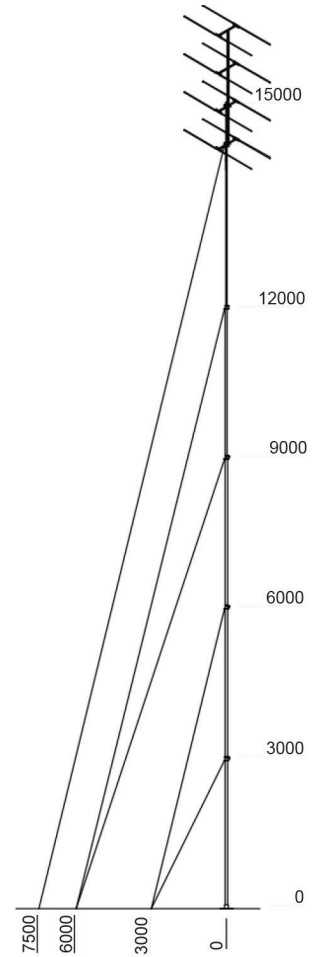

Fig 1 15m Telomast Arrangement
1. Select the site. For installation on a level surface, the staying diagram (fig 1) indicates the space required. For installation on pitched roofs, special guy lengths and loading conditions will apply. The base and guy anchor points must be capable of supporting the design loads from the mast. The base and guy anchor loads are specified in table 2 for standard installations. Foot mounts are available for sloping and flat surfaces as well as roof peaks. Foot mount options include our 11MM-TRM-MD for tiled roof ridges or flat surfaces, 11MM-IRM for tin roof ridges and 11MM-LARM for flat or sloped surfaces.
2. Securely install the foot mount or base plate to the mast base fixing point. Attach turnbuckles to all guy anchor points. Note: to avoid possible over-stressing of the mast structure, it is important that the guy anchors be located no closer to the mast base than specified in figure 1.